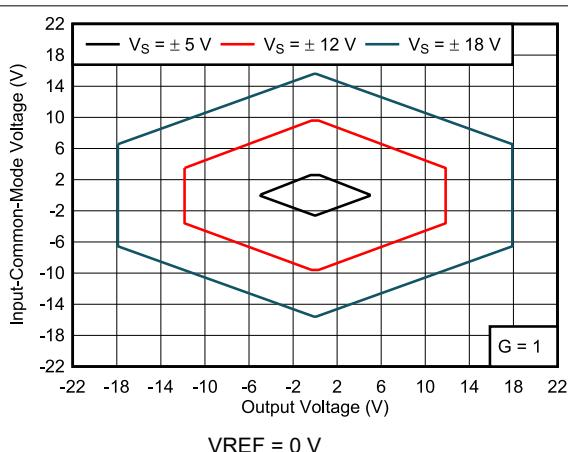

Figure 7-12. Boundary Plot - Input Common-Mode Voltage vs Output Voltage
- (1) Total offset, referred-to-input (RTI):  $V_{\text{OSI}} = (V_{\text{OOS}}) + (V_{\text{OSO}} / G)$ .
- (2) Specified by characterization. Not tested in production.
- (3) Offset drifts are uncorrelated. Input-referred offset drift is calculated using:  $\Delta V_{\text{OS(RTI)}} = \sqrt{[\Delta V_{\text{OSI}}^2 + (\Delta V_{\text{OSO}} / G)^2]}$ .
- (4) Input voltage range of the input stage. The input range depends on the common-mode voltage, differential voltage, gain, and reference voltage; see Figure 7-12.
- (5) The values specified for  $G > 1$  do not include the effects of the external gain resistor,  $R_G$ .